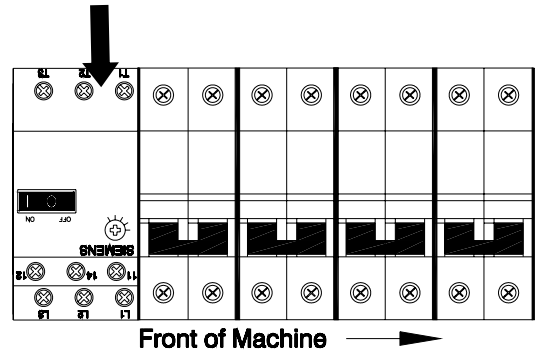

Figure 22. Motor Circuit Protector
- MOTOR CIRCUIT PROTECTOR-** The motor circuit protector is set to trip when the electric motor draws too much current. To restore the motor to operation, switch OFF and lock out incoming power at the source, and allow the motor to cool. Reset the motor circuit protector to ON. (See Figure 22.)